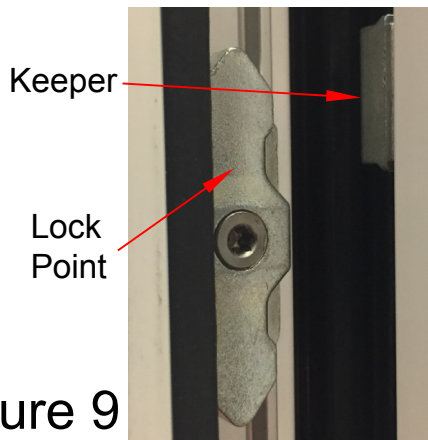

Figure 9
- B. Check the alignment of the lock points, by opening the window, engage the locks, almost close the window, and the lock points should align with the keepers (See figure 9).